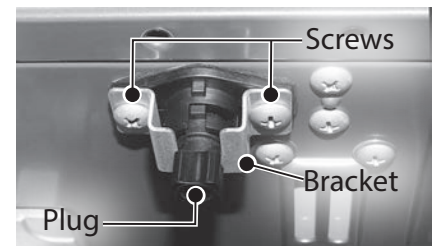

Figure 203 - HEX drain assembly
11 Locate the heat exchanger (HEX) drain line underneath the water heater. See Figure 203. Remove the two screws securing the metal bracket and place them aside in a safe place for reinstallation.
- 16** Locate the HEX drain connected to the drain tube in the water heater (bottom left side). Remove spring clip securing HEX drain to drain tube and place it aside in a safe place for reinstallation. See Figure 203.